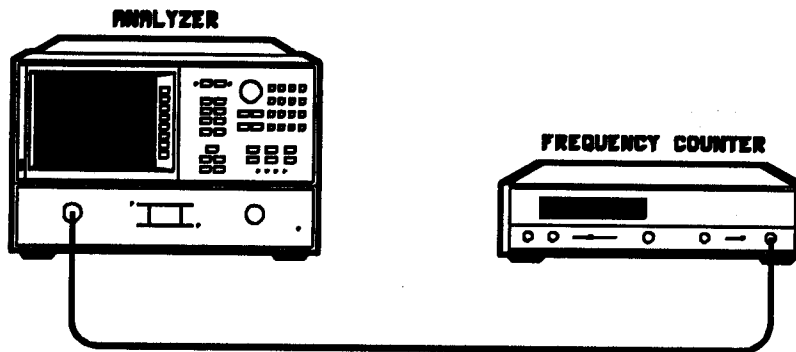

Figure 5-5. Source Pretune Correction Constants Setup
1. Check A9 CC jumper position. Connect the equipment as shown in Figure 5-5 and then press **RECALL** **RECALL FAC PRESET** **SYSTEM** **SERVICE MENU** **TESTS** **ADJUSTMENT TESTS**. When the CRT displays "Pretune Adj", press **EXECUTE TEST**. Press **YES** at the query to alter the correction constants.
1. Connect port 1 of the analyzer to the frequency counter input (see Figure 5-5). Press **RECALL**